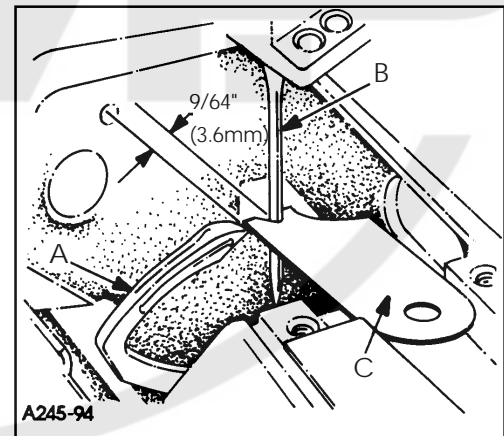
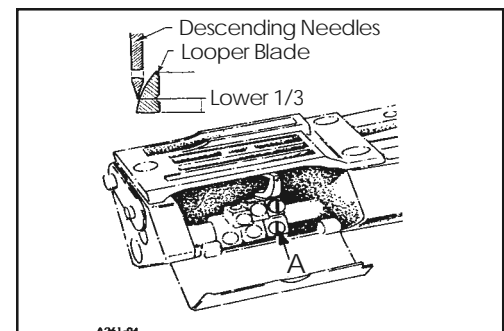

FIG. 6
FIG. 7
Insert a new set of needles, type and size specified. Always adjust the looper (A, Fig. 6) for the left needle first. Set the looper so that the distance from the center of the needle (B) to the point of the looper (A) is $9/64$ " (3.6mm) when the looper is at its farthest position to the left. Looper gauge (C) No. 21225-9/64 can be used advantageously in making this adjustment. If adjustment is required, loosen screw (A, Fig. 7) in looper holder, permitting movement in either direction to attain the $9/64$ " (3.6mm) dimension as shown in Fig. 6. Retighten screw (A, Fig. 7). Repeat for other needles and loopers.
Rotate handwheel in operating direction to assure that the looper point passes to the rear of the needle to touch but not to deflect the needle. This adjustment can be made by loosening screw (A, Fig. 7) in looper holder. Looper holder can be moved front to back to attain looper to needle setting. Always check the $9/64$ " (3.6mm) looper gauge setting after setting the looper to the back of the needle, and conversely, always check the setting of the looper to the back of the needle after setting the $9/64$ " (3.6mm) looper gauge.
The amount of looper avoid has been set at the factory to .110" (2.8mm). If it becomes necessary to adjust the amount of avoid it is recommended as a starting point, to have the points of the descending needles contact the back of the lower 1/3 of the back of the looper blade. (See Fig. 7).